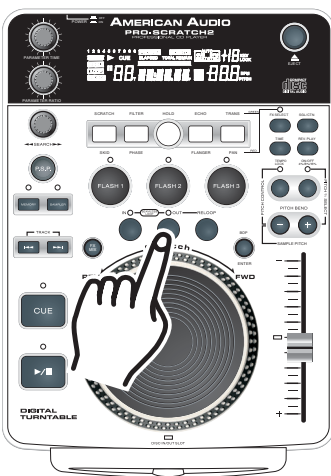

Figure 26
- 4) The red *MEMORY BUTTON (9)* LED will turn off, when your sample is locked into memory.
- 5) At this point your sample has been stored into memory. The original loop you used to create the sample will remain playing until the *OUT BUTTON (32)* is pressed (Figure 26).
- 6) Your sample can now be recalled at any time even when the unit is in *PAUSE MODE*. To recall the sample be sure the sample function is on, by pressing the *SAMPLE BUTTON (8)* until the red sample button LED turns on. To play your sample in a continuous loop leave the sample function on. To play your sample just once, turn the sample function off immediately after initiating your sample. With the sample function on the sample will continue to play until the sample function is turned off.